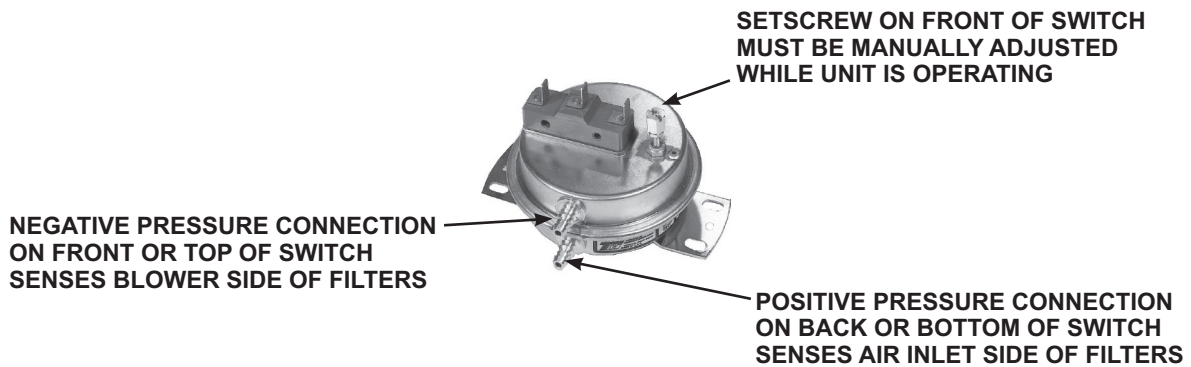

Figure 19. Dirty Filter Switch
1. With clean filters in place, blower doors closed, and blower operating, decrease pressure setting by adjusting setscrew on switch (see **Figure 19**) clockwise until indicator light is energized or setscrew is bottomed out.